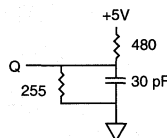

Fig. 1 OUTPUT LOAD EQUIVALENT
| Output load | See Figures 1 and 2 |
5. Test conditions as specified with the output loading as shown in Fig. 1 unless otherwise noted.